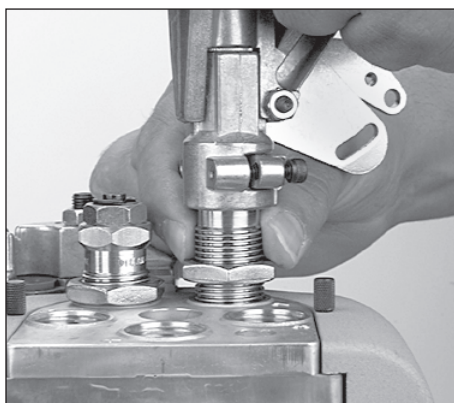

FIG 95
4. If the white cube has not traveled its full distance, lower the platform just enough to pull the case off of the powder funnel (this will prevent the shellplate from indexing while you adjust the powder die). While holding the powder measure, turn the die down 1/8 of a turn FIG 95. Again raise the platform and observe the travel of the powder bar.